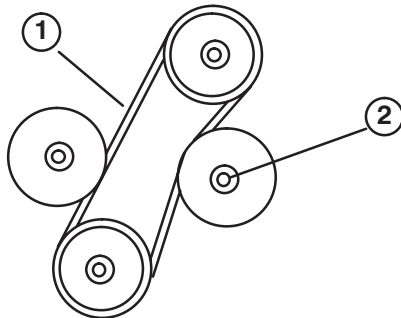

Figure 46
3. Belt should deflect 1/4 in. (6 mm) midway between the pulleys with 5 lb. force (22 n) (Fig. 46). If deflection is incorrect, proceed to step 4. If correct, proceed to step 5.
4. Loosen locknut securing adjustable idler pulley (Fig. 46). Push idler pulley against belt until proper deflection is achieved and tighten idler pulley locknut (Fig. 46).
2. Loosen locknut securing adjustable idler pulley, slide pulley away from belt, and remove belt from pulleys (Fig. 46).
3. Install new belt and adjust for proper tension. Push idler pulley against belt until belt deflects 1/4 inch (6 mm) with 5 lb. force (22 N·m) midway between top pulley and stationary idle pulley. Tighten idler pulley locknut to secure adjustments (Fig. 46).